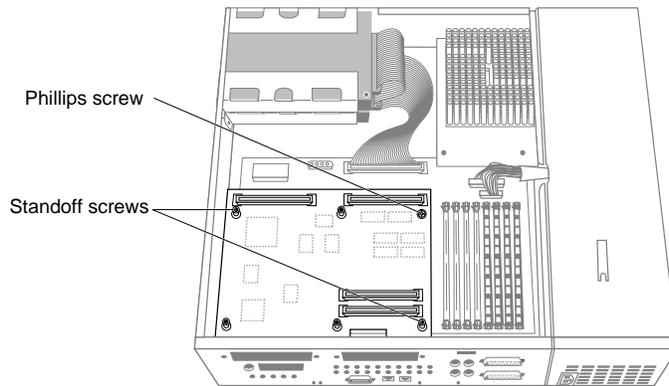

Figure 1-11 Removing the Screws From the Graphics Board
- Use the open-ended wrench to unscrew the two standoff screws (tall, hexagonal posts) from the graphics board. (See Figure 1-11.)